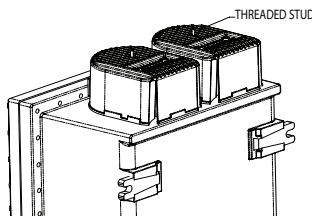

Figure 2
3. Place shroud over explosionproof filters and threaded rod, with shroud opening facing back of enclosure. See Figure 2.